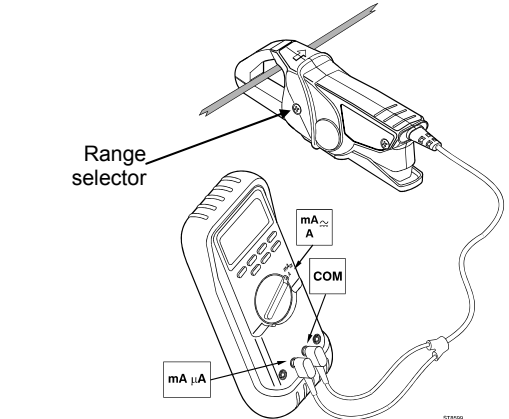
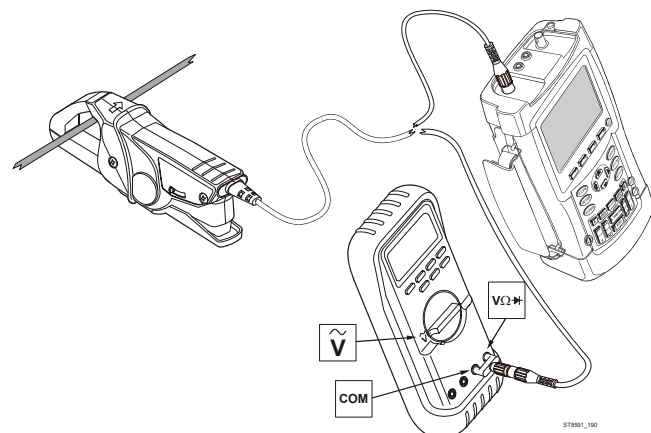

Figure 2. Measurement Setup for i200
Figure 3. Measurement Setup for i200s
1. Connect the i200/i200s Current Clamp to the measuring instrument. i200: See Figure 2. i200s: See Figure 3. When using a Dual Banana to BNC Adapter Clamp to the input.